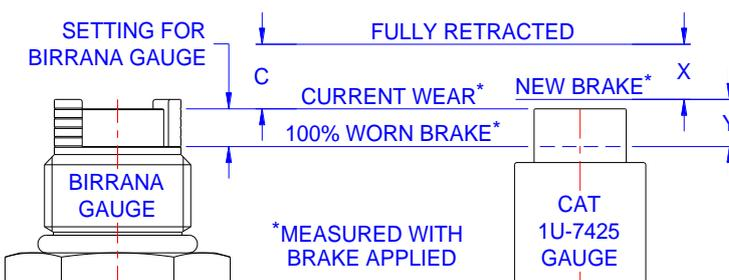

Figure 2
2. Refer to the CAT® instructions to determine the total movement of the gauge plunger when the brake goes from fully applied to fully released (measurement 'C'). Also refer to Figure 2.
3. Determine what the CAT® gauge plunger travel should be for a new brake (0 percent of brake wear) - refer to the table in the CAT® instructions, or for the relevant "baseline value for piston stroke". This will be referred to as measurement 'X'. Also refer to Figure 2.
Setting height from the sleeve to the bottom of the slot = 'X' + 'Y' - 'C' (Refer Figure 2)